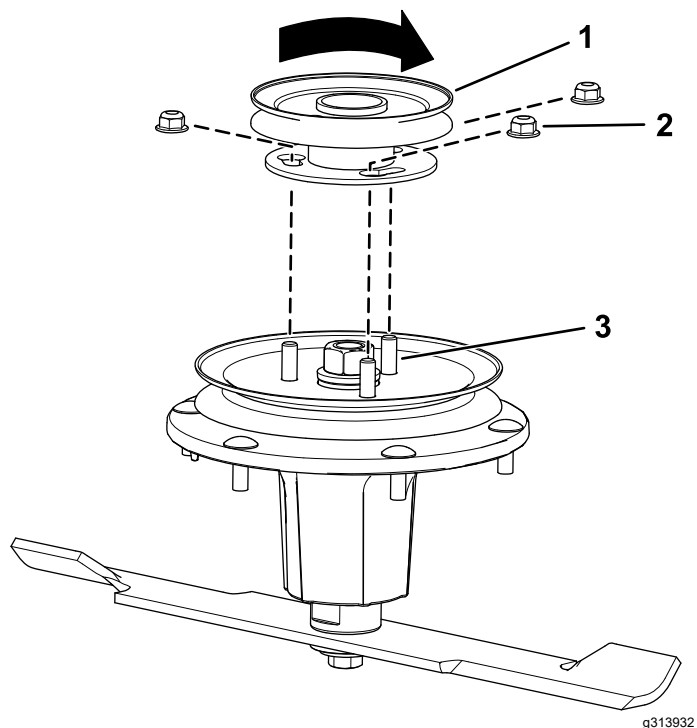

Figure 10
5. Align the new pulley assembly so that the openings fit over the studs (Figure 10).
6. Turn the pulley to lock it into position (Figure 10).
7. After the new pulley assembly is in position, install the nuts to secure the new pulley assembly (Figure 10).